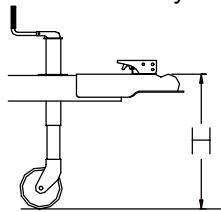

FIGURE 2
- Level trailer and measure and record distance from ground to top of coupler ball socket. (See figure 2)